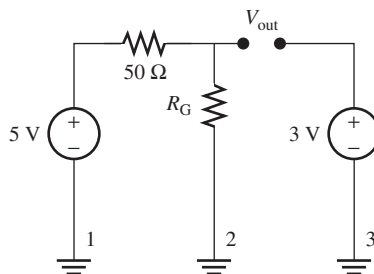

FIGURE P11.48 Ground loop.
11.48 (A)* A circuit provides 5 V power for an analog part and 3 V for a digital part shown in Figure P11.48. Calculate the voltage difference measured at V_{out} when $R_G = 0 \Omega$ (no ground loop) and $R_G = 1 \Omega$ (ground loop).